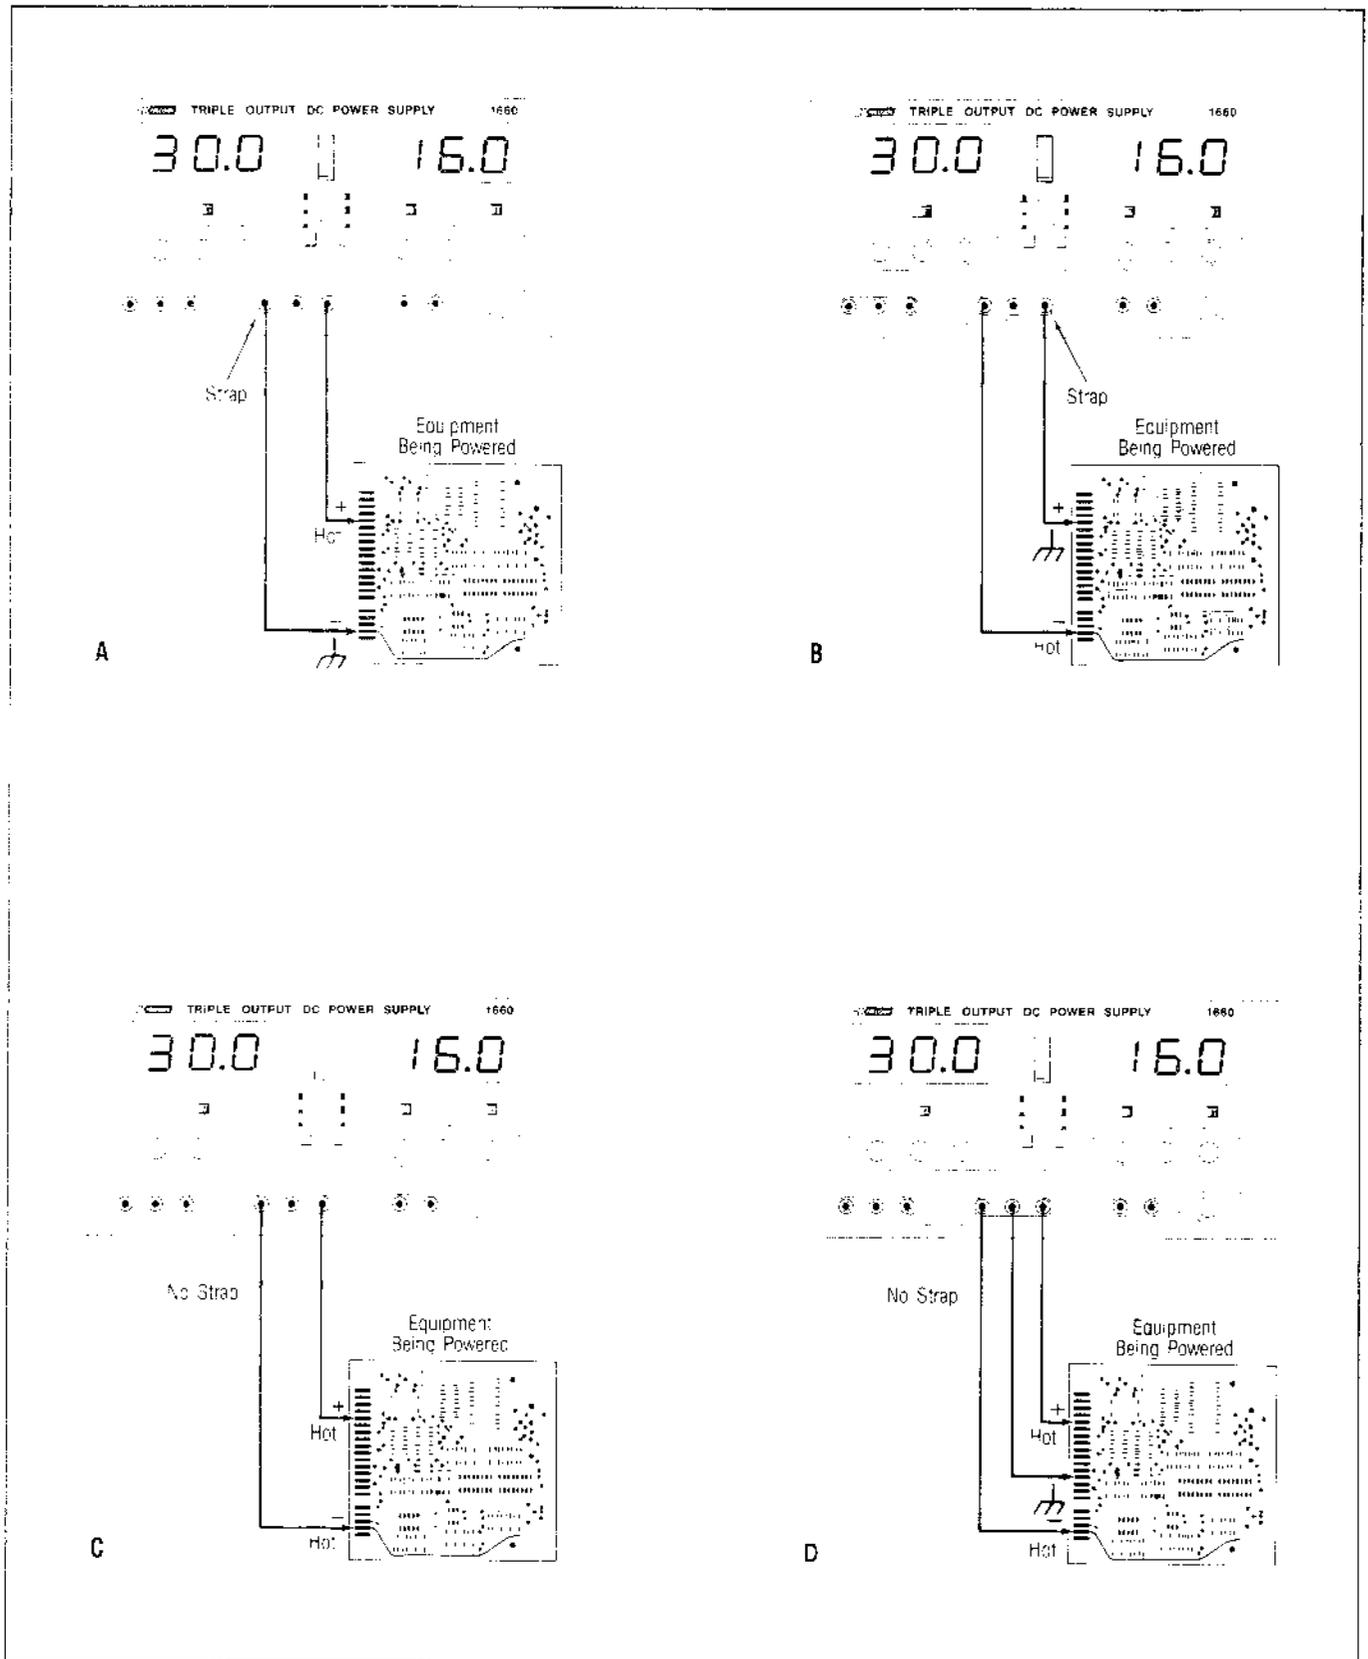

Fig. 3. Independent Operation Grounding Possibilities.
5. Fig. 3 illustrates the grounding possibilities when used in the **INDEPENDENT** mode.